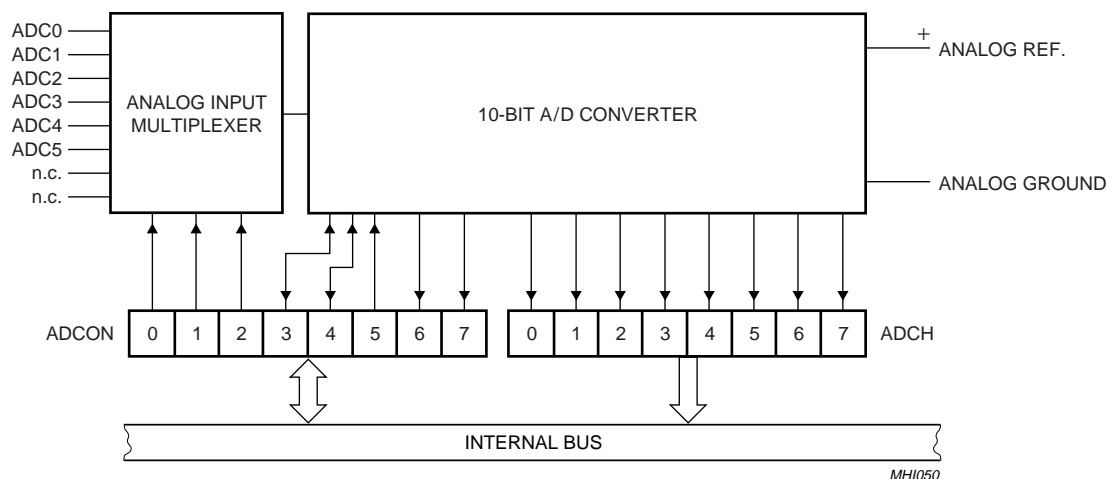

Fig.48 Functional diagram of Analog Input Circuitry.
The analog input circuitry consists of an 6-input analog multiplexer and a 10-bit, straight binary, successive approximation ADC. The A/D can also be operated in 8-bit mode with faster conversion times by setting bit ADC8 (AUXR1.7). The 8-bit result will be contained in the ADCH register. The analog reference voltage and analog power supplies are connected via separate input pins. For 10-bit accuracy, the conversion takes 50 machine cycles, i.e., 18.75 μ s at an oscillator frequency of 16 MHz. For the 8-bit mode, the conversion takes 24 machine cycles. Input voltage swing is from 0 V to +5 V. Because the internal DAC employs a ratiometric potentiometer, there are no discontinuities in the converter characteristic. Figure 48 shows a functional diagram of the analog input circuitry.
Figure 48 shows the elements of a successive approximation (SA) ADC. The ADC contains a DAC which converts of a successive approximation register to a voltage (VDAC) which is compared to the analog input voltage (V_{IN}). The output of the comparator is fed to the successive approximation control logic which controls the successive approximation register. A conversion is initiated by setting ADCS in ADCON register. ADCS can be set by software only.
otherwise the bit being tested is cleared. This process is repeated until all ten bits have been tested, at which stage the result of the conversion is held in the successive approximation register. Figure 48 shows a conversion flow chart. The bit pointer identifies the bit under test. The conversion takes four machine cycles per bit.
Figure 48 shows how the ADC is realized. The ADC has its own analog ground (AV_{SS}) and a positive analog reference pin (V_{ref+}) connected to each end of the DAC's resistance-ladder. The ladder has 1023 equally spaced taps, separated by a resistance of "R". The first tap is located 0.5 x R above AV_{SS}, and the last tap is located 1.5 x R below V_{ref+}. This gives a total ladder resistance of 1024 x R. This structure ensures that the DAC is monotonic and results in a symmetrical quantization error is shown in Figure 48.